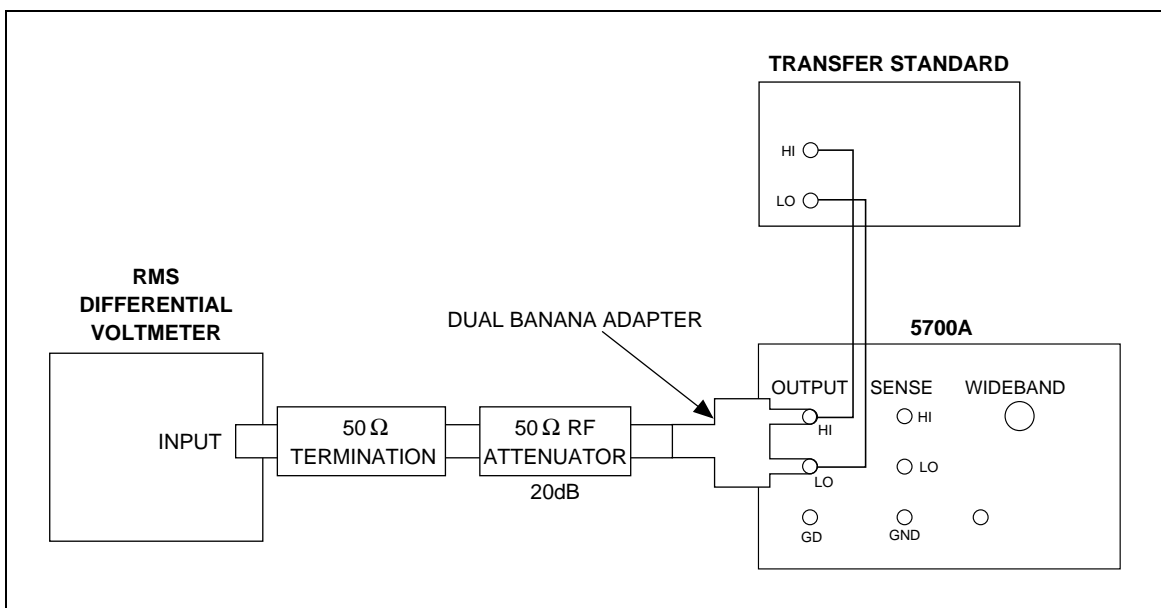

Figure 3A-20. 200V and 20 mV Frequency Response Characterization(Alternate test)
10. Add a second 20 dB attenuator to the setup of Figure 3A-20 and repeat the entire process of steps 7 through 9 to obtain 20 mV rms differential voltmeter corrections. Again, go back to the 1 kHz Level Verification 931 20 mV READING result to obtain the precise rms differential voltmeter reading to use as a reference.